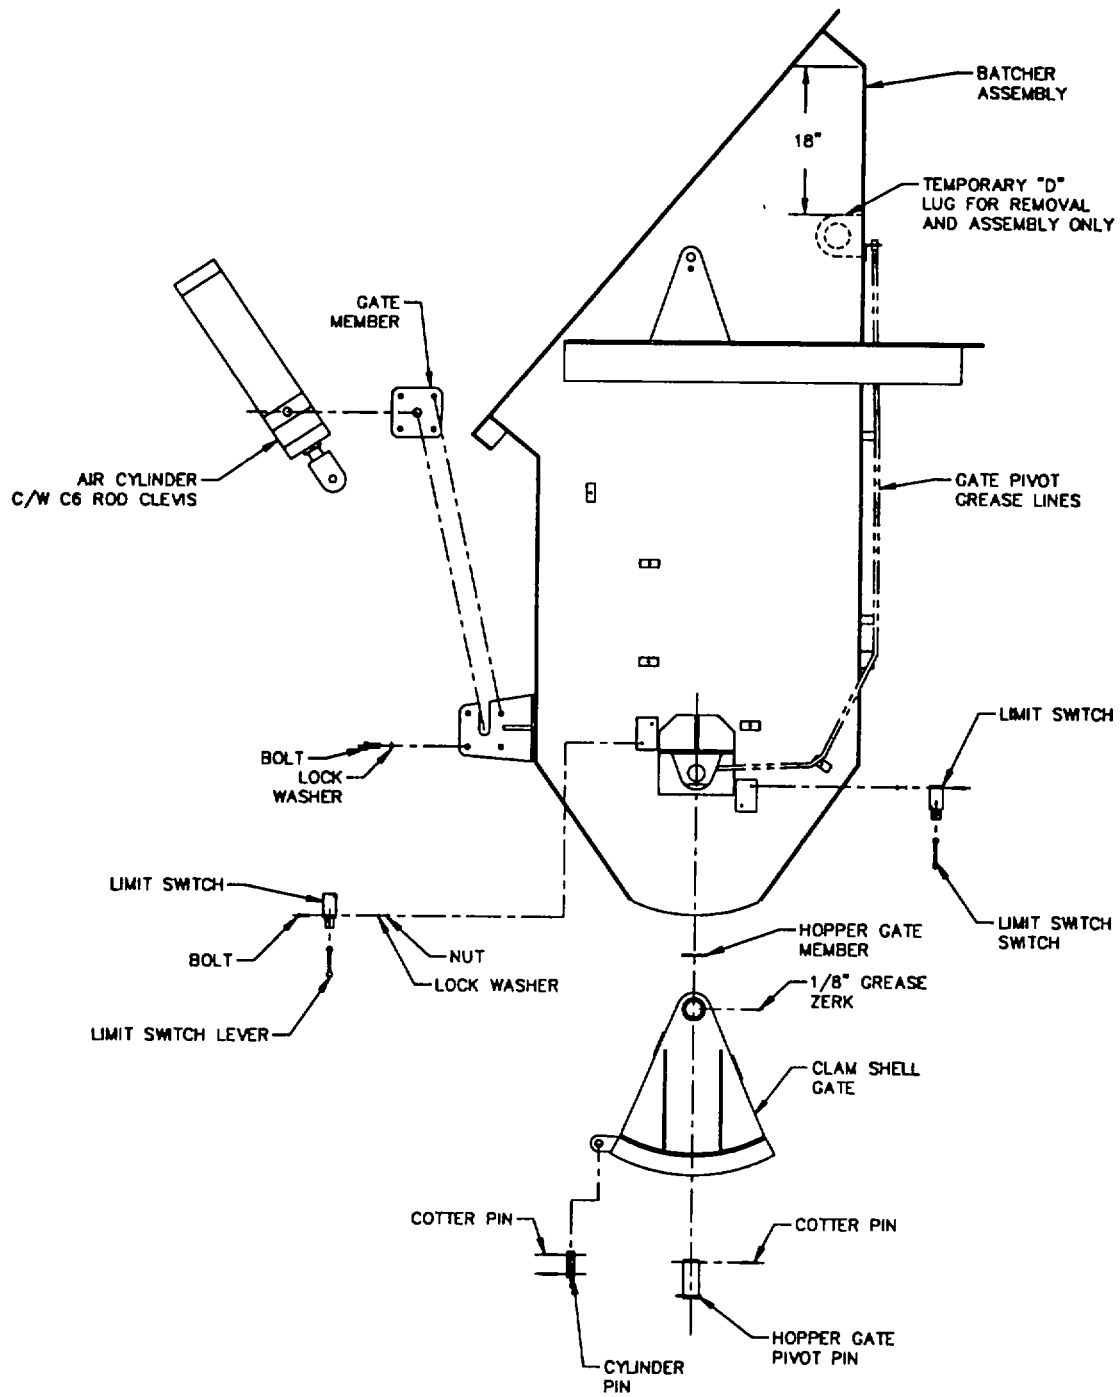

Figure 3-11 Batcher
**Removal, Repair and Replacement. See figure 3-11.**